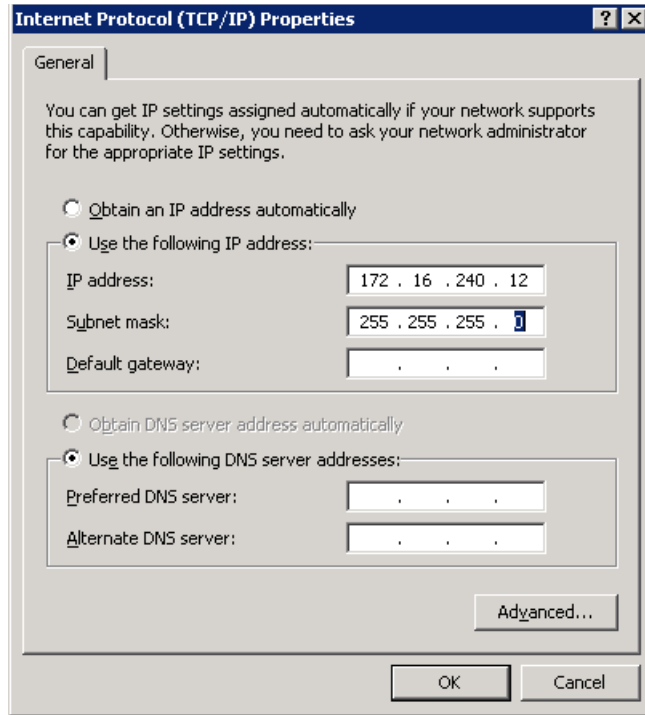

Figure 5-10 Internet Protocol TCP/IP Properties menu
3. Enter an IP address, subnet mask, and optionally a default gateway. Then, click **OK** as shown in Figure 5-10.